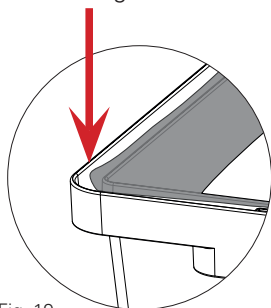

Fig. 19
- Clean the container and pay particular attention to the cleanliness and integrity of the two circumferential sealing rims of the channel Fig.19 .